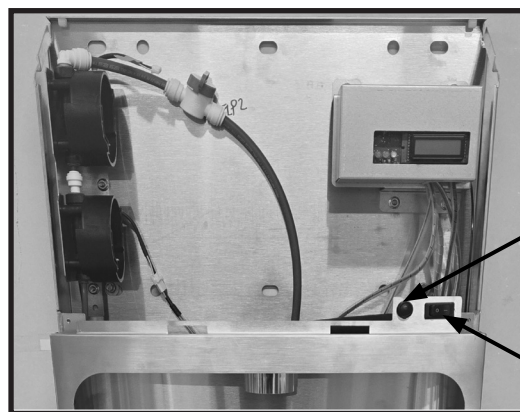

Fig. 11
1. Remove two (2) security screws (size T25) that secure the filter access door from top and rotate the filter access door forward. The filter access door will be held in the open position by the tethers.
2. The programming button is located in lower right corner of bottle filler (See Fig. 11, Pg. 13).